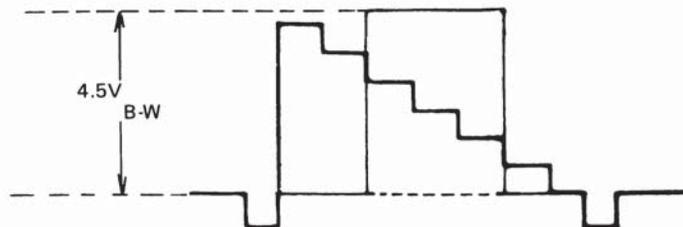

Figure 22
4. Adjust Sub Contrast control (R306) to obtain 4.5V. from the white level to pedestal level shown in figure 22.